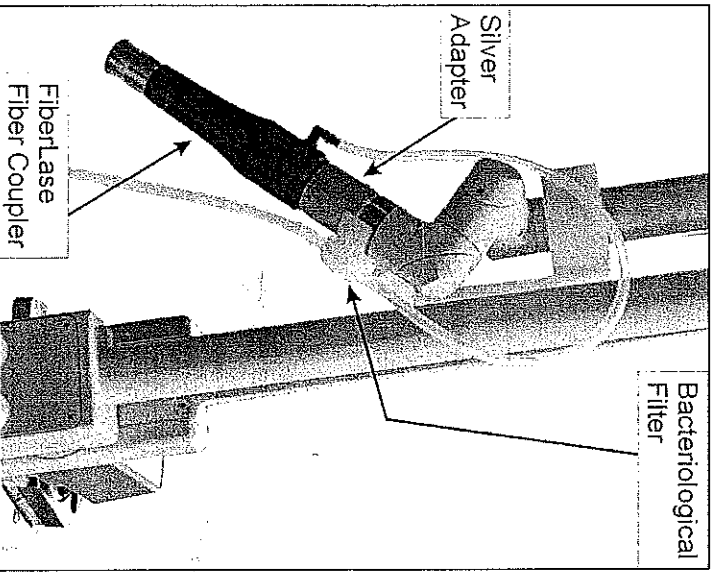

Figure 2
3. Unpack the air tube with the bacteriological filter and connect one end of the tube to the spigot on the compressor labeled **Air Outlet**. Refer to Figure 2: